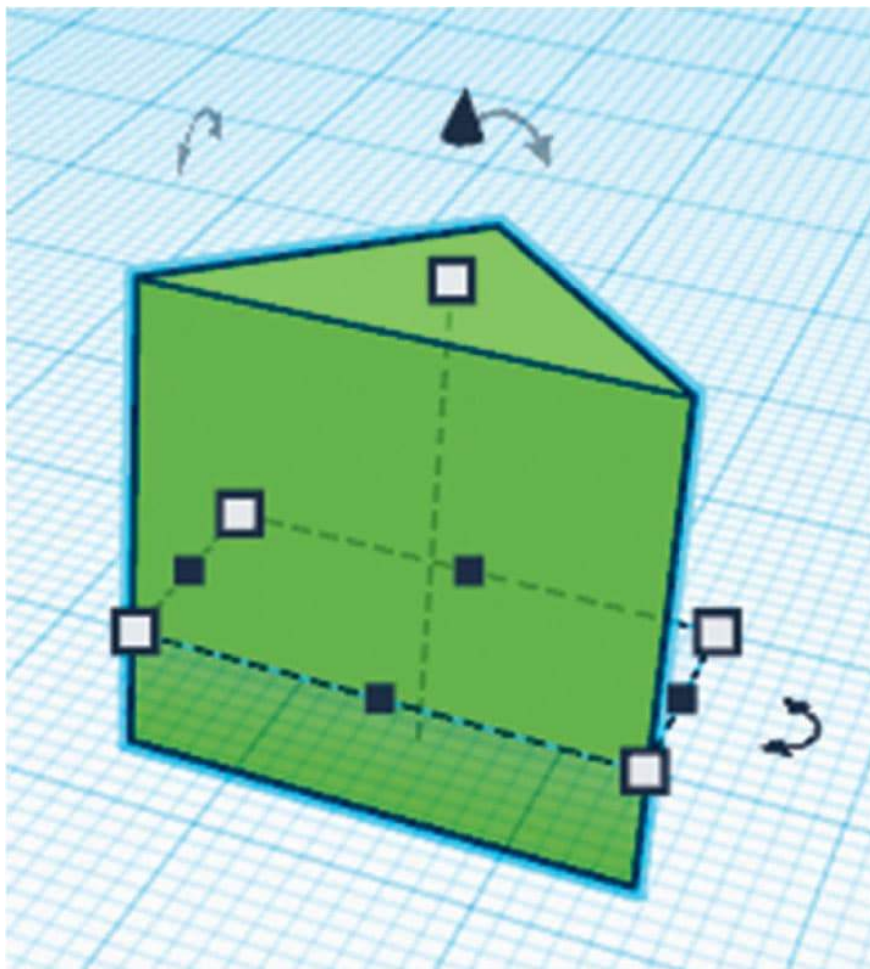

FIG. 3: Rotate the triangular prism/roof so it is on its side.
2. Rotate the triangular prism onto its side so it lies flat as shown in fig. 3. Then flatten the triangular prism to a height of 3 mm.